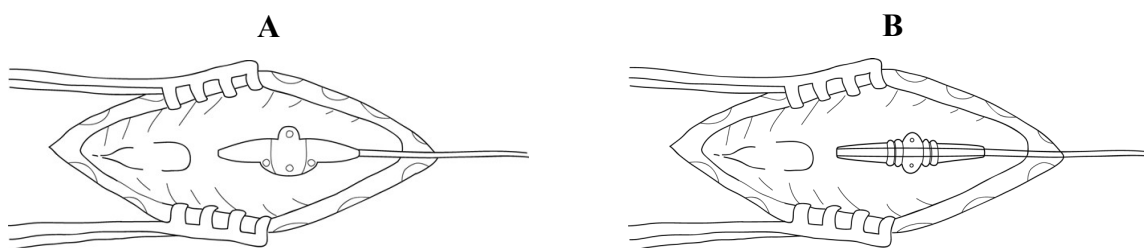

Figure 5.5: A) An active anchor positioned on a percutaneous lead.
4. Slide the anchor along the lead until the distal portion of the anchor is at the lead entry site (refer to Figure 5.5).